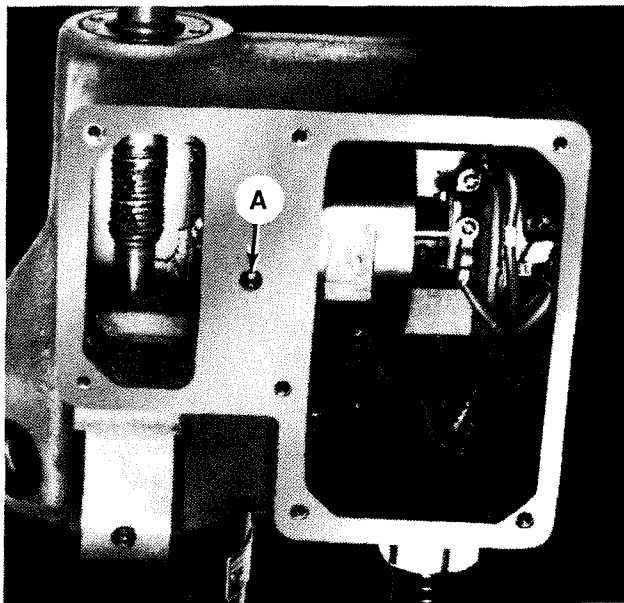

Figure 3.29 - Drive Worm and Worm Wheel Disengaged
5. Remove the lock screw at "A", Figure 3.29, and loosen the set screw under the lock screw.
6. Slide the cartridge assembly out of engagement with the vertical feed screw, as shown in Figure 3.29 .
13. Tighten the set screw at "A", Figure 3.29 .